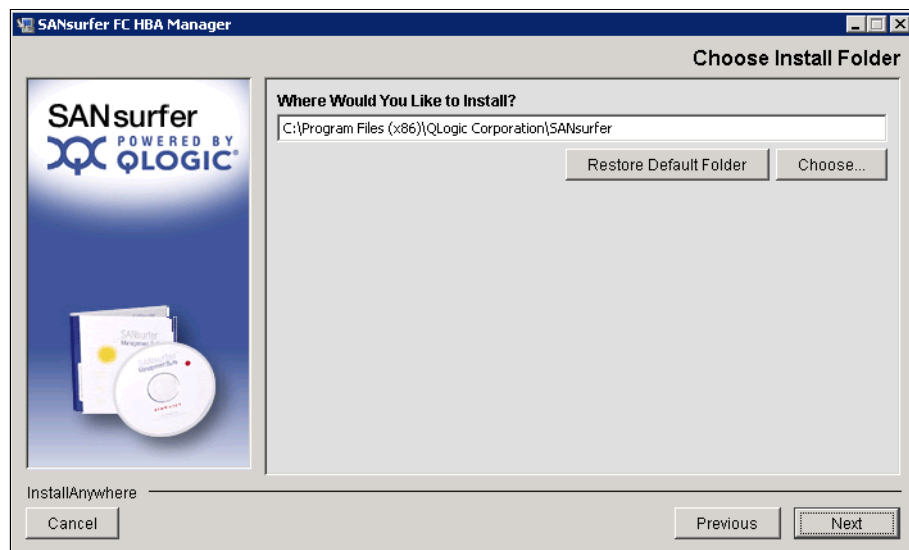

Figure 7-66 Choose Install Folder panel
5. In the Choose Install Folder panel (Figure 7-66), select the path to install SANsurfer, and then click **Next**.